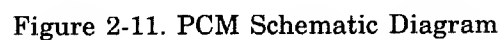

Figure 2-11. PCM Schematic Diagram
Power input connections and strapping connections are shown in figure 2-11. The site must be already prepared as described in the SITE PREPARATION MANUAL, 30000-90016.
2. Verify that jumpers have been correctly installed on TB1 and TB2, as listed within figure 2-11.